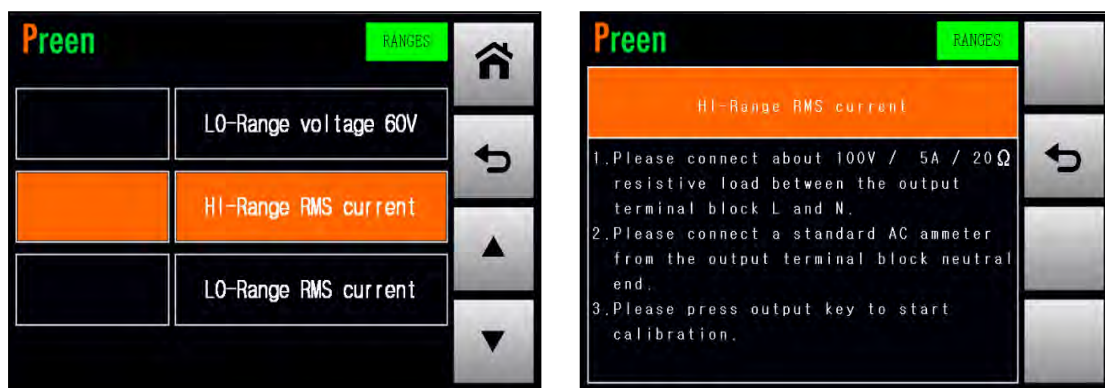

Figure 4.13 Enter into the page which calibrates the HI-Range RMS current
1. Press the item  repeatedly to enter into the page which calibrates the HI-Range RMS current (refer to Figure 4.13).